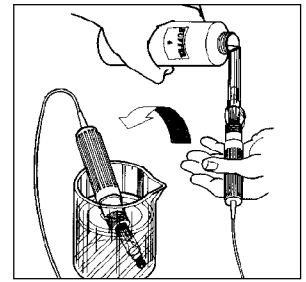

FIGURE 21
5. Rinse pH sensor with low buffer solution then place sensor in a clean container. Pour enough low buffer solution into the container to cover the sensor's tip (approximately 1") (see fig. 21.)
7. Discard the low buffer solution. Rinse pH sensor with mid buffer solution then place sensor in a clean container. Pour enough mid buffer solution into the container to cover the sensor's tip (see fig. 21.)
9. Discard the mid buffer solution. Rinse pH sensor with high buffer solution then place sensor in a clean container. Pour enough high buffer solution into the container to cover the sensor's tip (approximately 1") (see fig. 21.)
2. Rinse ORP sensor with 100 mV, low buffer solution, then place sensor in a clean container. Pour enough low buffer solution into the container to cover the sensor's tip (see fig. 21).
6. Rinse ORP sensor with low buffer solution then place sensor in a clean container. Pour enough low buffer solution into the container to cover the sensor's tip (approximately 1") (see fig. 21).
8. Discard the low buffer solution. Rinse ORP sensor with mid buffer solution then place sensor in a clean container. Pour enough mid buffer solution into the container to cover the sensor's tip (approximately 1") (see fig. 21).
10. Discard the mid buffer solution. Rinse ORP sensor with high buffer solution then place sensor in a clean container. Pour enough high buffer solution into the container to cover the sensor's tip (approximately 1") (see fig. 21).